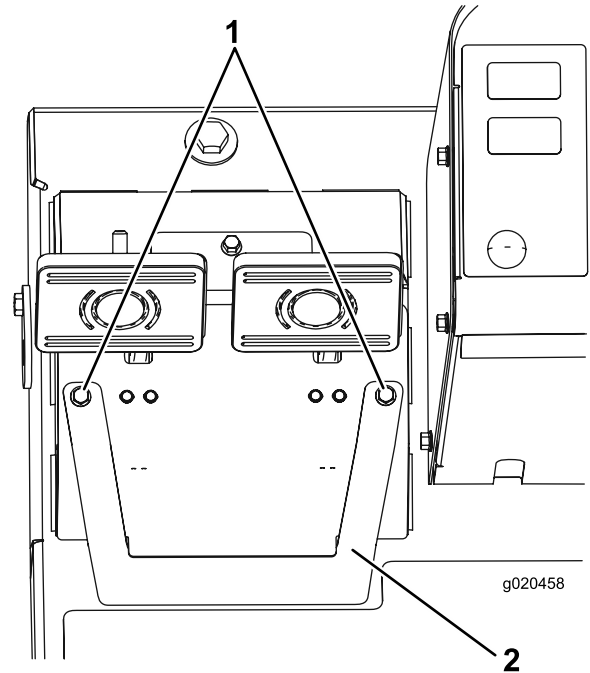

Figure 66
- A. Loosen the 2 mounting screws and remove the brake-adjustment cover (Figure 66).